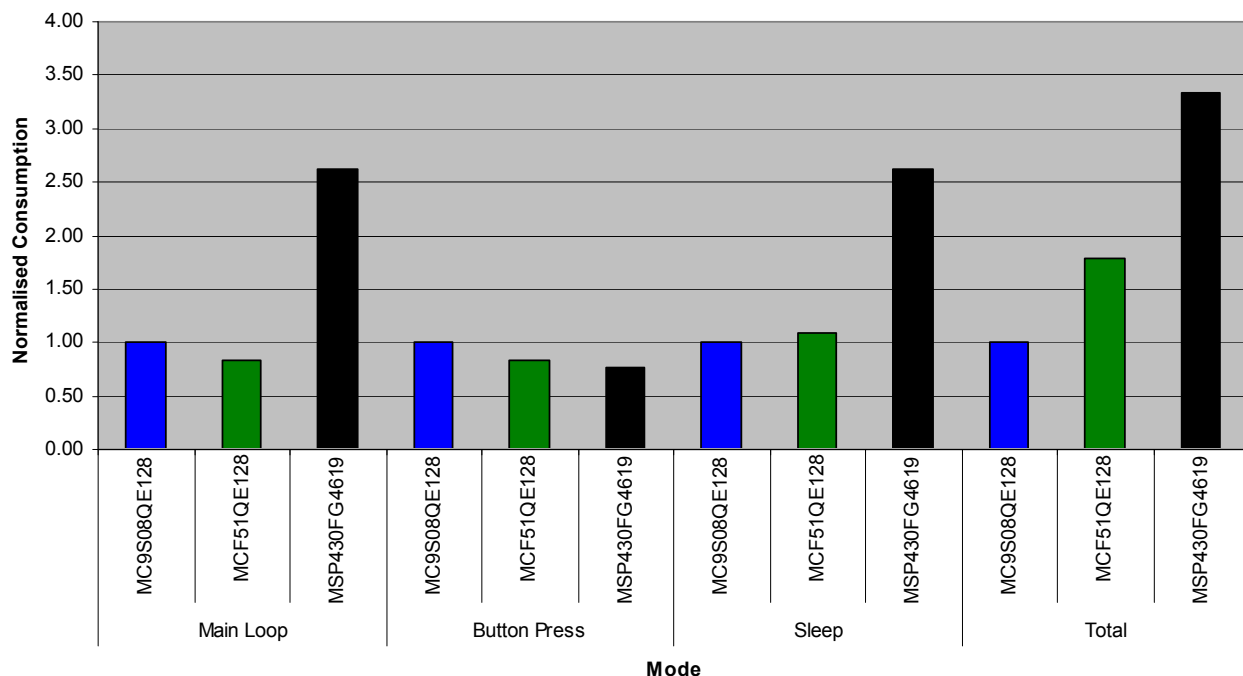

Figure 10. Energy Used in Each Device in Relation to MC9S08QE128
Figure 10 shows the energy used by each device in each application mode in relation to the MC9S08QE128. The energy is a function of IDD (μ A), time (ms), and voltage (V).